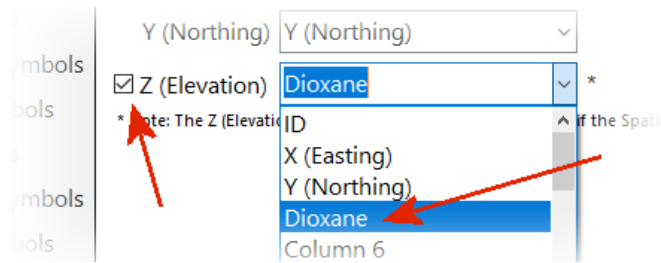

Figure 23
- Check the “Z (Elevation)” box and select the Dioxane column within the Datasheet (Figure 23). This defines the value that we’ll be using to create a proportional symbol map in which the size of the symbols is scaled to the amount of Dioxane that was measured at that point.